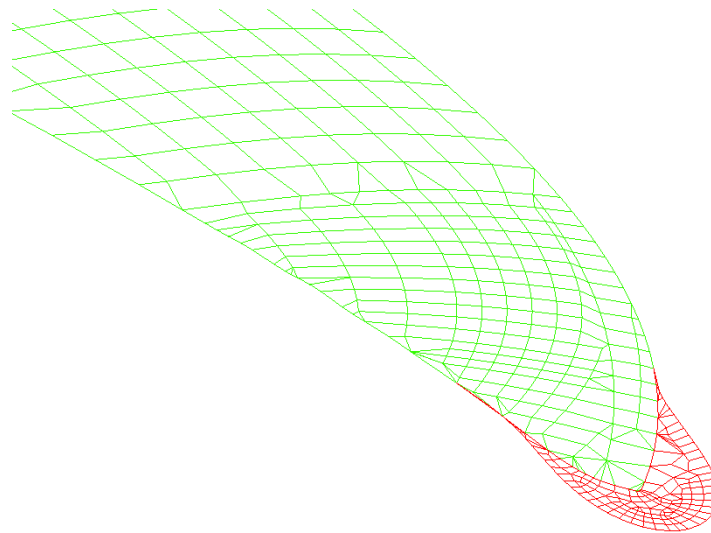

Figure 6.1.28 Corner Smooth
3. After a node is selected at a sharp corner, eta/DYNAFORM will generate a set of elements around the part boundary to create a circular shape to smooth the edge. Figure 6.1.28 illustrates a typical result of a corner smooth operation.